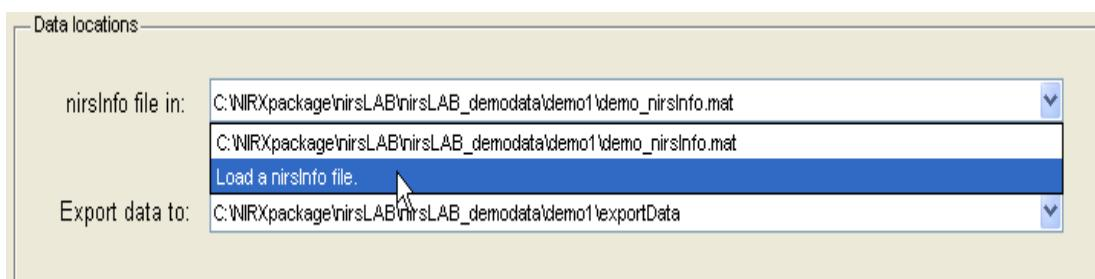

Figure 8-4. Selection of nirsInfo file.
1. Click on the pull-down menu next to the words "nirsInfo file in" and select the **Load a nirsInfo file** option in the menu to open a browser window, as shown in Figure 8-4.
2. Using the browser window to navigate to the desired project folder, then select the nirsInfo file in the folder and click the **Open** button to load it. After the nirsInfo file is loaded, the project folder is displayed in the pull-down menu as its first option, and choose the **exportData** folder within the project folder as the default folder to save the exporting data, which is displayed in the pull-down menu next to the words "Export data to" as its first option, as shown in Figure 8-4.